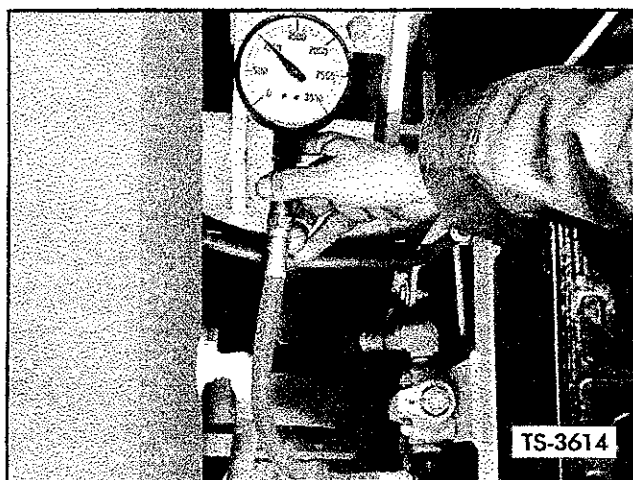

Fig. 44. Check Pressure — Steering Relief Valve
1. Use a hydraulic pressure gauge of at least 3000 psi capacity. With engine shut down, remove Allen head plug on side of relief valve and connect gauge as shown in Figure 44.